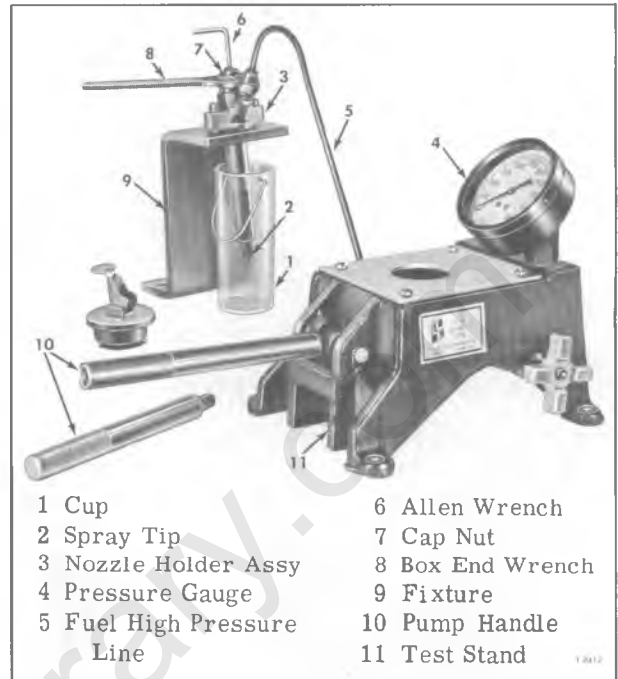

Figure 22—Test Stand for Checking Injection Nozzle Operation
This procedure will not serve to detect a nozzle with incorrect popping pressure within a moderate range. Such a malfunction can only be determined by removal of nozzle assembly from engine and checking on test stand (fig. 22).
Using test pump (J-21770) connected as shown in figure 22, proceed as instructed to set the valve opening pressure and test for leaks. Key numbers in text refer to figure 22.
1. With nozzle holder assembly connected to tester, actuate the test stand handle (10) rapidly (about 25 strokes per minute) to expel air from nozzle and holder and to "settle" the spring and nozzle loading column.
2. Depress operating handle (10) slowly to raise pressure. Continue to depress handle and note the gauge pressure at which the nozzle valve opens. If opening pressure is not 3000 psi, remove the leak-off tee and loosen cap nut (7) so Allen wrench (6) can be used to adjust spring pressure.
3. Use Allen wrench (6) as shown in figure 22, to turn pressure adjusting nut and change spring pressure. Turning nut clockwise increases pressure. Repeat valve opening pressure test each time adjusting nut is changed until correct opening pressure is obtained.
7. Depress the pump handle slowly with a 10-second stroke and hold the pressure slightly (approx. 100 lbs.) below nozzle valve opening pressure to check for valve seat leakage. No fuel droplets should appear. Occasionally a slight wetting of the tip (2, fig. 22) may be noticed. This is permissible since it is caused from hydraulically balancing the spring and nozzle valve.
8. Remove the nozzle holder assembly (3, fig. 22) from test stand (11, fig. 22) and close the high pressure threaded connection with plastic cap to prevent entrance of dirt. If nozzle holder is not to be installed immediately, it should be wrapped in clean paper.